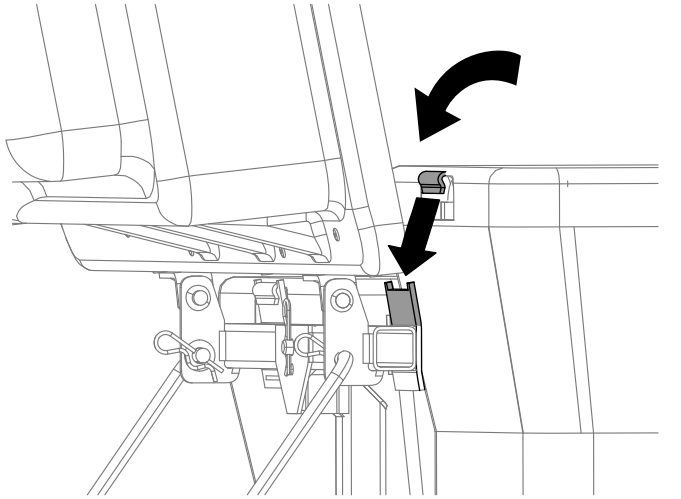

Figure 21
- Lift the bagger top and install the bags assembled in 9 Assembling the Grass Bags (page 15) by sliding the bag frame hooks onto the retaining brackets (Figure 21).